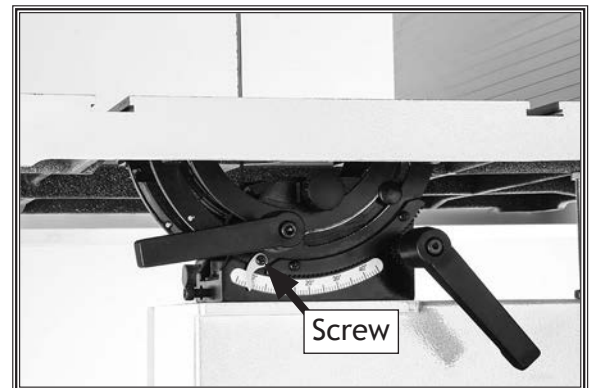

Figure 107. Location of screw that secures table tilt pointer.
4. Loosen Phillips head screw that secures table tilt pointer (see **Figure 107**), adjust pointer to "0" on scale, then retighten screw.